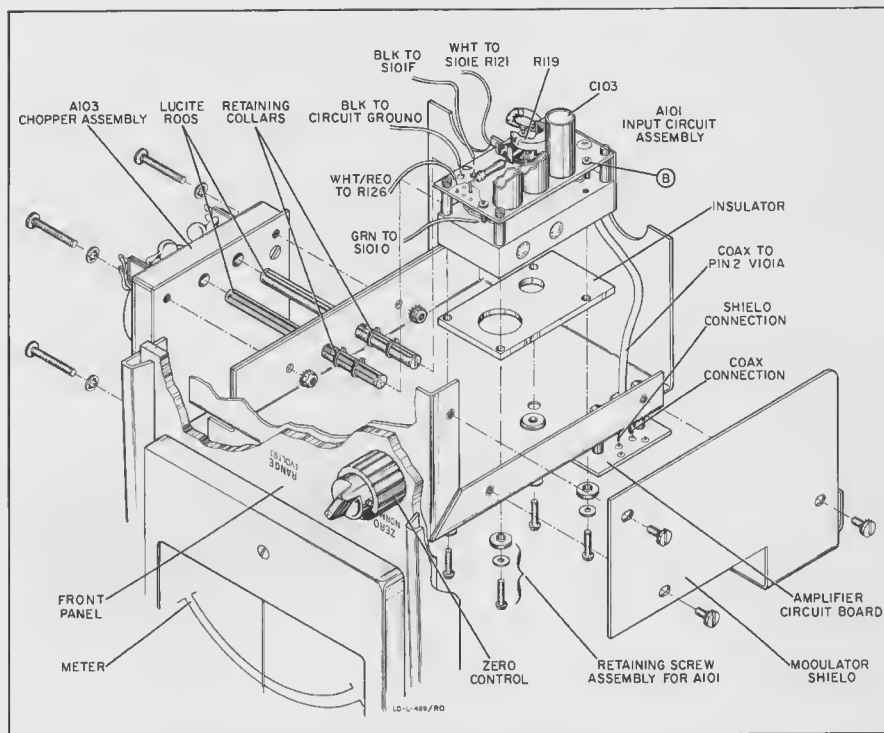

Figure 5-3. Exploded View, Showing Disassembly for Modulator Replacement
- h. Move oscilloscope probe (with resistor) to point B in figure 5-3.
5-22. Figure 5-3 shows necessary disassembly for modulator replacement. Proceed as follows:
- Disconnect all wires from the top of A101 as shown in figure 5-3.
e. Remove the four screws holding the input circuit assembly (A101) to the main chassis. When replacing this assembly, be sure to reseat the insulated washers (figure 5-3) in their proper positions.
g. Carefully unsolder the shielded cable (figure 5-3) from the amplifier circuit board (pin 2 and 3 of V101A). (A length of cable is normally supplied with the input circuit assembly. However, if it is more convenient, and the cable is known to be good, it may be disconnected at the input assembly circuit board.) In any case, avoid undue heat that might damage the inner conductor insulating material in the coax.